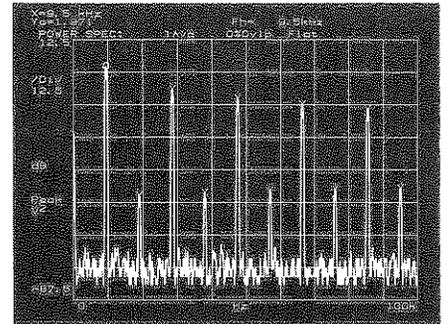

Figure 5-3
5. Harmonic Marker Press the **SPCL MARKER** (special marker) key. Select the **HMNC ON** (harmonic on) softkey to activate the harmonic markers and the associated softkey menu. Twenty harmonic markers are displayed as shown in Figure 5-3.